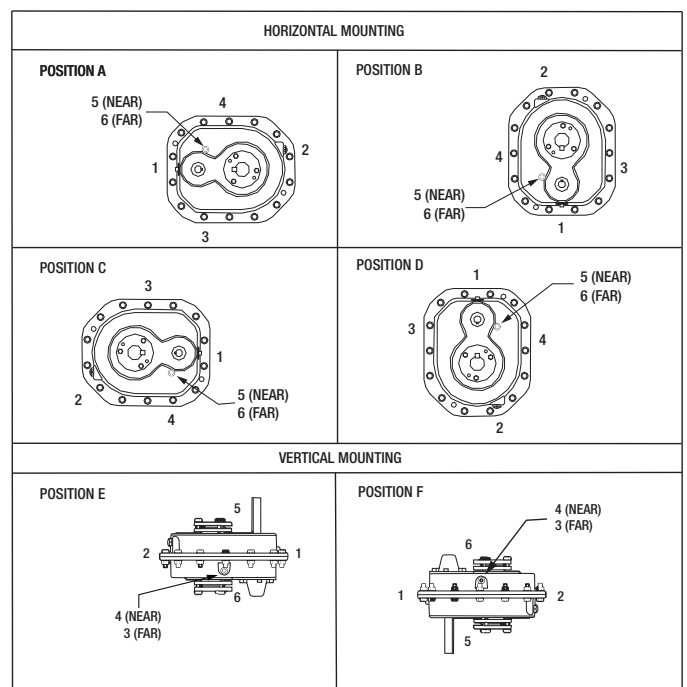

Figure 1 - Mounting Positions
2. Determine the running positions of the reducer (see Figure 1).
Vertical Installations—Install the filter/ventilation plug in the hole provided in the upper face of the reducer housing as installed. If space is restricted on the upper face, install the vent in the highest hole on the side of the reducer per Figure 1. Install a plug in the hole in the bottom face of the reducer. Do not use this hole for the magnetic drain plug. Refer to Table 1 to determine the correct minimum oil level plug location.
If the running position varies from the horizontal positions shown in Figure 1 by more than 20° for position B and D or more than 5° for position A and C the oil level plug cannot be used safely to check the oil level. Refer to White Paper WP0278 or contact Product Support for more information on the proper oil level. Because of the many possible positions of the reducer, it may be necessary to make special adaptations using standard pipe fittings, stand pipes and oil level gauges
Note 1: If reducer position is to vary from those shown in Figure 1, either more or less oil may be required. Consult Product Support in Simpsonville, SC.